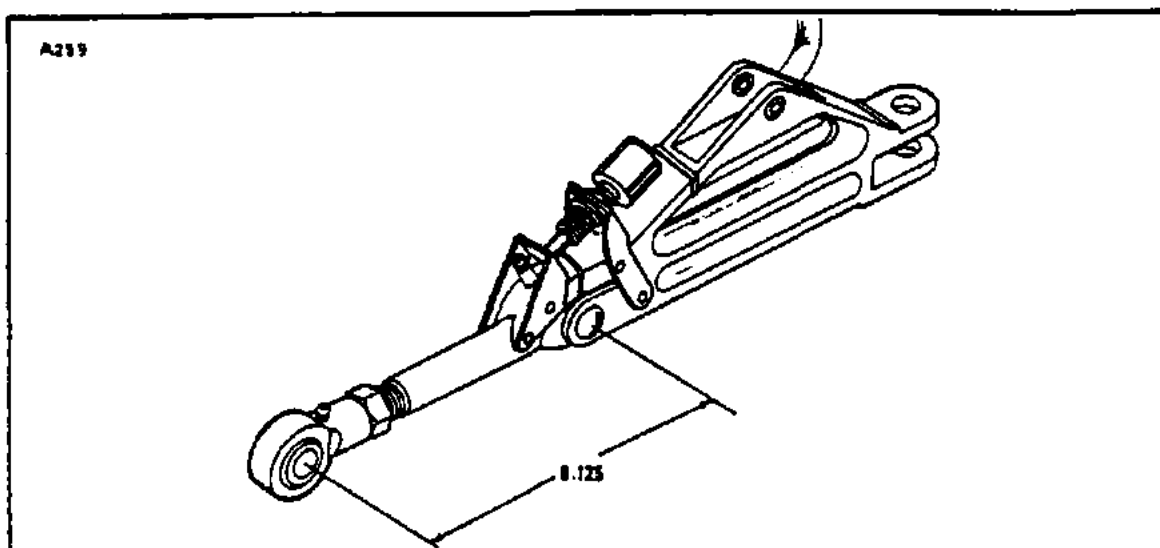

Figure 7-10. Adjustment of Main Landing Gear Drag Link
- a. Insert a gear support bearing (43 and 48) in each support fitting (11 and 18) and secure with snap rings (45).
1. Place a spacer washer (17), 0.035, P/N 19513-10, or original number of washers and then the forward support fitting (18) on the forward support arm of the strut housing.
2. Slide the barrel nut (47) into the forward strut arm and insert the attaching bolt (49) with washer through the fitting into the arm.
4. Secure the aft support fitting (11) to the rear spar web with attaching bolts, washers and nuts.
6. Using the access hole behind the rear spar, insert the bungee tube (10) with washer (44) (0.125, P/N 14943-20) through the rear support fitting and into the rear strut arm using enough shim washers (12) between the rear support fitting and the strut arm to diminish end play of the strut housing. (Shim washers are available in sizes 0.035, P/N 19513-10; 0.062, P/N 14843-93; and 0.125, P/N 14843-20.)
7. Position the side brace support bracket (22) on the main spar web and secure with bolts and washers.
- c. Assemble the upper and lower drag links (24 and 27) with pivot bolt (26).
- d. Adjust the lower drag link to a dimension of 6.125 inches from center of the middle pivot bolt to center of the rod end bearing. (Refer to Figure 7-10.)
- g. Check for clearance between drag link middle pivot bolt head (26) and the main gear capstrip. and binding of the lower drag link and bearing by retracting and extending the gear by hand. If clearance is less than 0.062 of an inch between pivot bolt head and spar capstrip, additional shims (17) must be added between the strut arm and front support bracket.
- h. Install studs (14) in rear strut arm and safety with minimum 0.041 (Spec. MS20995C41) wire (13).
- i. Install barrel nut (46) in rear strut arm and insert bolt (9) with washer through
7-25. ADJUSTMENT OF MAIN GEAR SIDE BRACE LINKS. (Refer to Figure 7-10.) Disconnect the side brace link from the main gear strut housing, and adjust to maintain a distance of 6.125 inches between the center of the pivot bolt which attaches the upper drag link to the lower drag link and the center of the rod end bearing.